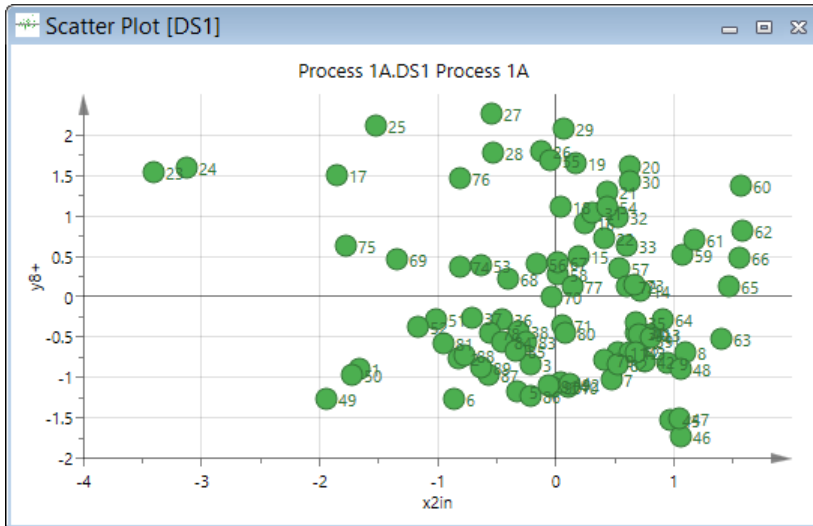

Figure 4. Scatter plot of $y8^*$ (impurity) against $x2in$ (one of the inputs).
Scatter plots of pairs of variables are common complements to time traces (figure 4). One hopes to identify correlations, thereby identifying important process variables causing changes in the output variables.
Figure 4. The score values for each batch are arranged as row vectors under each other, giving an $N \times (J \times A)$ matrix, S_T . Above we see only the first part of S_T corresponding to the 1st component (t_1). From this matrix one calculates the averages and standard deviations (SDs) of the matrix columns, and then control intervals as the averages ± 3 SD.
2. **Calculating tolerance limits for score batch control charts:** Now the matrix S_T is used to derive minimum and maximum tolerated values at each time point (j) of t_{j1} , t_{j2} , t_{j3} , ..., t_{jA} from the column averages and standard deviations of S_T , as indicated in figure 4. In MSPC one would typically use tolerance intervals of the average ± 3 SD at each time point. Hence, we now have for each score vector an average trace with upper and lower tolerance limits (figure 4). This specifies the normal evolution traces, one for each score component, of new batches.